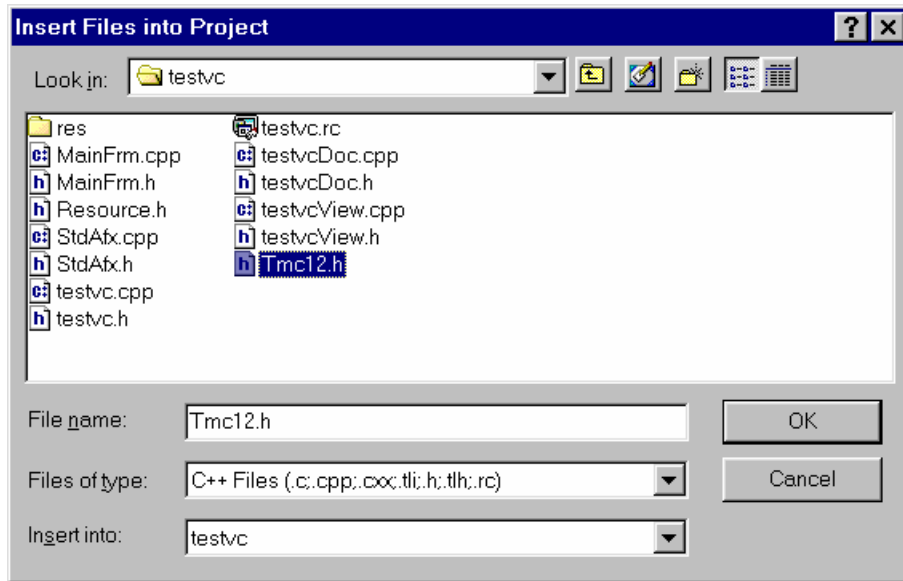

Figure 2-2-2. Select the declaration file to include.
For example, "TMC12.h". Refer to Figure 2-2-2.
Step 6: Click the button "OK". Refer to Figure 2-2-2.